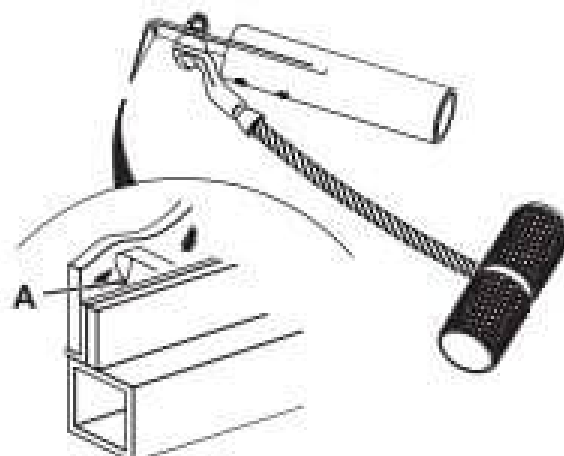

Fig 7. Cut-out Knife
- c Cut-out Knife. ➔ Fig 7. (D B-4). The cut-out knife can be used as a left handed or right handed tool.